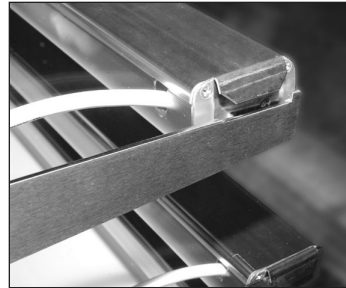

Fig. 7. Position the light assembly hooked on the shelf support and seated in the notch.
3. Locate the horizontal lights. Hook the light assembly on the shelf supports positioned light-side down and with the electrical cords on the right. See fig. 7.